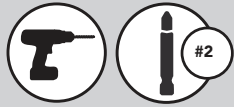

FIGURE 7
Attach each side mounting bracket to the inside of the face frame using the (6) provided #6 x 5/8" flat head screws (See Fig 7).